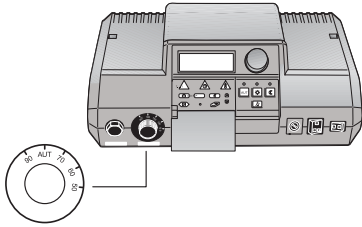

Fig. 4 Remove the dial on the boiler aquastat.
- Remove the dial on the boiler water thermostat (Fig. 4).